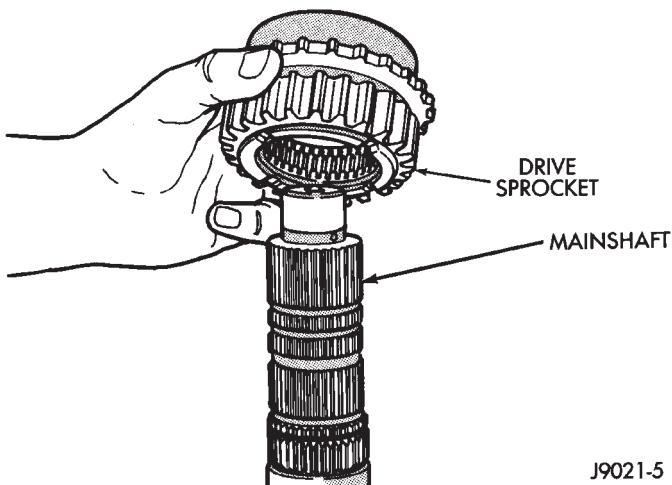

Fig. 16 Drive Sprocket Removal/Installation
(25) Remove drive sprocket (Fig. 16).